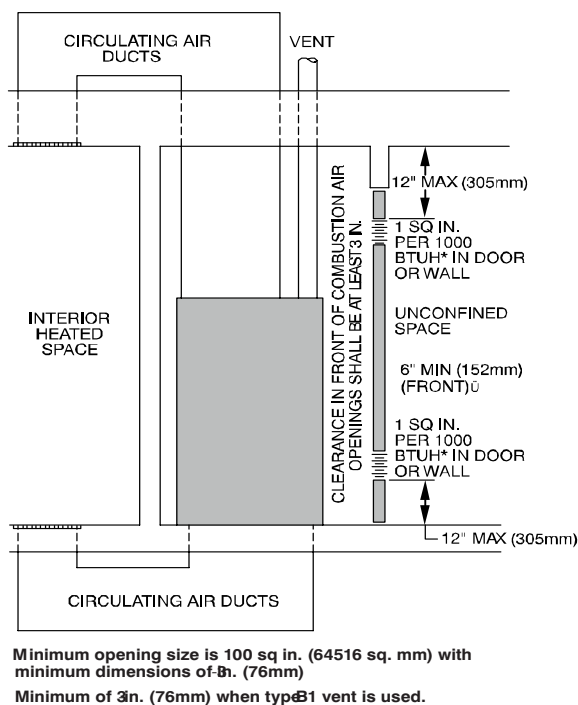

Fig. 7 – Air for Combustion, Ventilation, and Dilution from Indoors ^{L12F013}
- b. Combining spaces on same floor level. Each opening shall have free area of at least 1 in.²/1,000 BTUh (2,000 mm²/kW) of the total input rating of all gas appliances in the space, but not less than 100 in.² (0.06 m²). One opening shall commence within 12 in. (300 mm) of the ceiling and the second opening shall commence within 12 in. (300 mm) of the floor. The minimum dimension of air openings shall be at least 3 in. (80 mm). See Fig. 7.